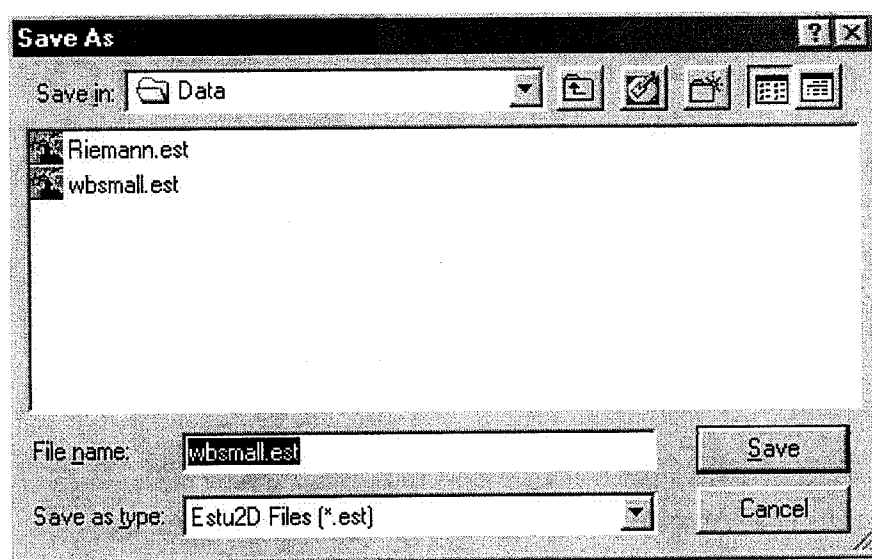

Fig. 4. 1. Save As Dialog Box.
3. Go to **File Menu**, select the **File | Save As** command, and a **File Save As** dialog box like that shown in Fig. 4. 1 will appear.